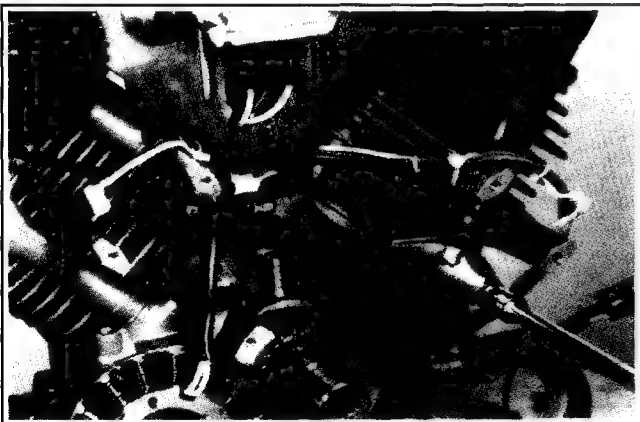

Figure 9-21. Remove Idler Pulley to Remove Timing Belt.
2. Remove idler pulley and the timing belt. See Figure 9-21.